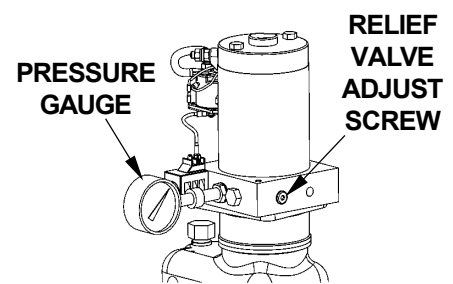

FIG. 41-2
9. With Platform on the ground, remove the pressure hose and fitting from the Pump and replace it with a 0-3000 PSI Pressure Gauge. Hold the Control switch in the "RAISE" position. Adjust the Relief Valve on the side of the Pump until the gauge shows 2800 to 3000 PSI (**FIG. 41-2**). Remove gauge and re-install pressure hose.